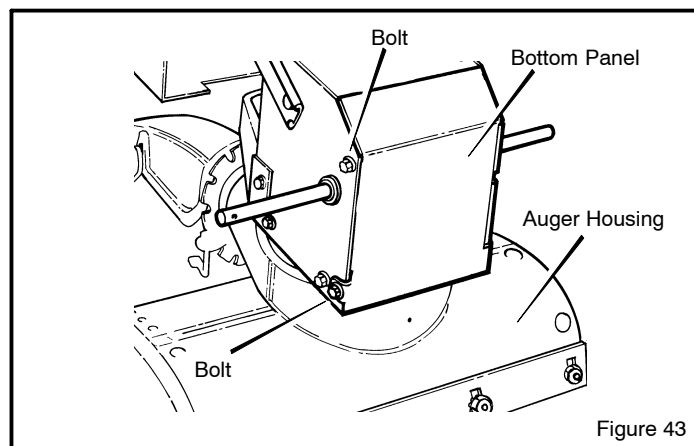

Figure 43
1. Remove the gas from the gas tank. Stand the snow thrower up on the front end of the **auger housing** (see Figure 43).
3. Loosen the **bolts** on each side of the **bottom panel** (see Figure 43).
6. Install the **bottom panel** (see Figure 43).
1. Remove the gas from the gas tank. Stand the snow thrower up on the front end of the **auger housing (4)**. (see Figure 43).